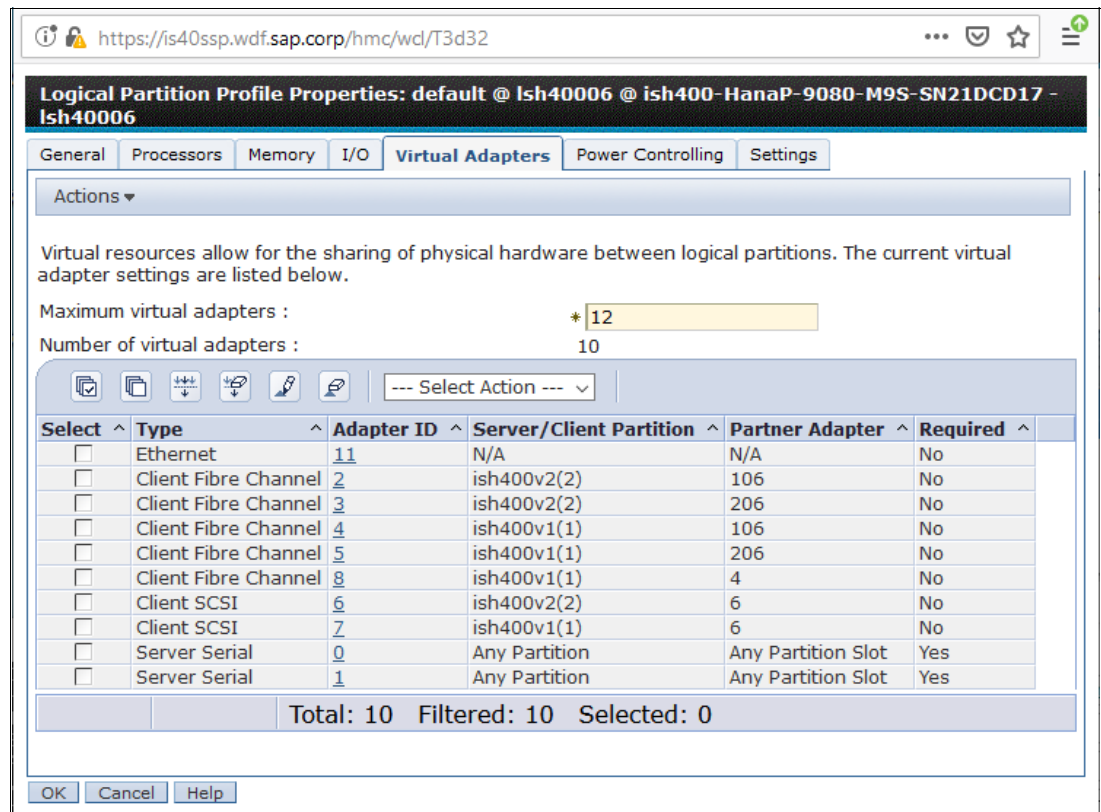

Figure 2-13 Zone the LPAR and virtual adapter
- b. Select the appropriate virtual I/O client partition, then from the task menu click **Properties**. Expand the **Virtual Adapters** tab, select the Client FC client adapter, and then select **Actions** → **Properties** to list the properties of the virtual FC client adapter, as shown in Figure 2-13.